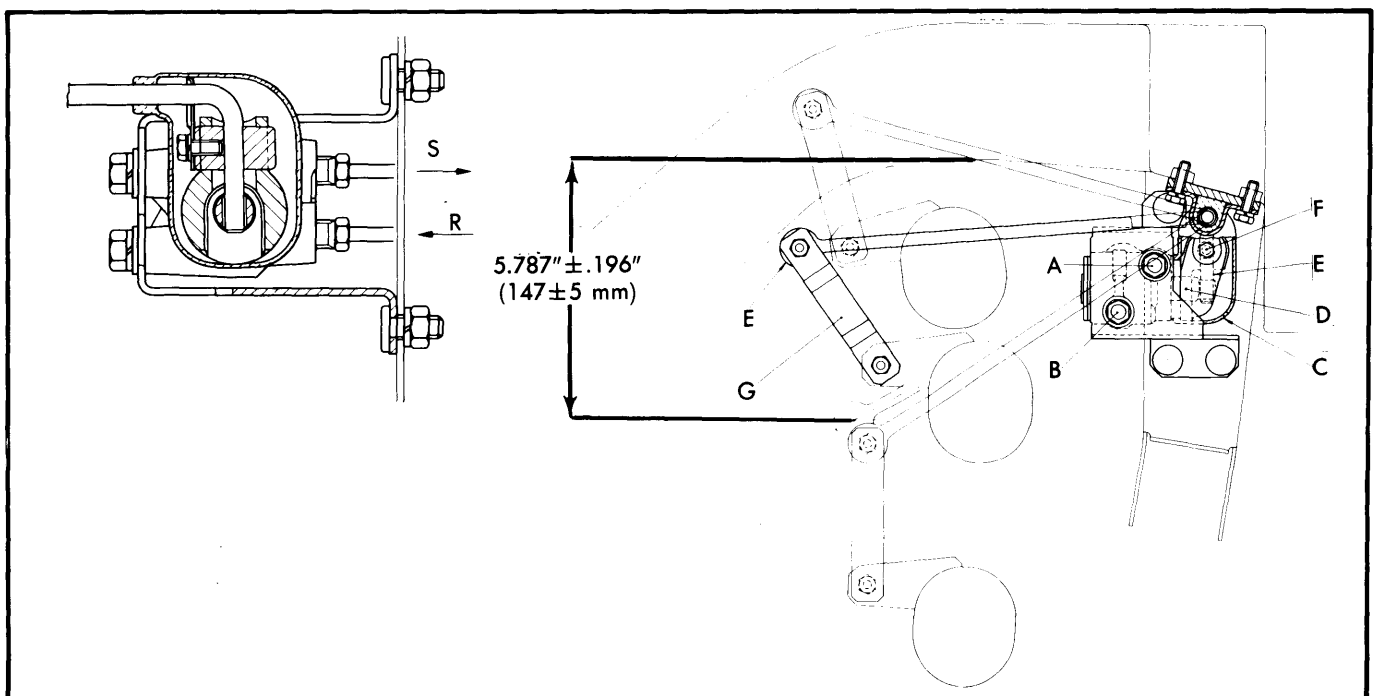

Fig. 1 Brake Pressure Regulator Measurement and Adjustment Points for Spider 2000
Spider 2000 — 1) Bring end of torsion bar (E) to distance shown in Fig. 1 from rubber buffer resting surface. Use a jack to raise body to gain appropriate height, or place weight in passenger seat before tightening to specifications.
2) Lift dust boot (C) and check contact of regulator piston (D) with torsion bar end (E).
3) Pivot regulator body on screw (A) until piston (D) is just touching torsion bar end (E).
4) First, tighten screw (B) and then screw (A) in all the way. Connect link (G) to torsion bar eye end (E) with screw and nut while inserting rubber bushings and spacer.